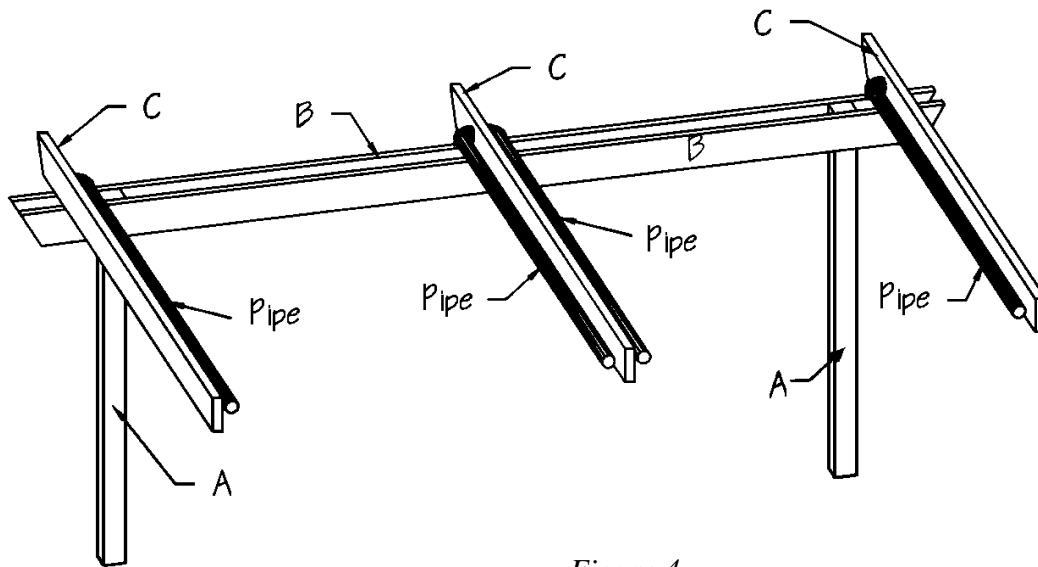

Figure 4
1. Install the pipes 10 inches away from the end of the Tops (C), as shown in *Figure 4*.